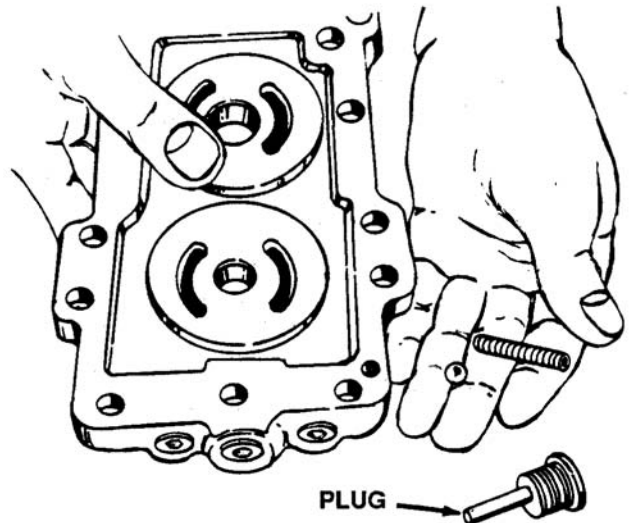

Figure 6-32. Ball and Spring Removal
- b. Remove spring and check valve (ball) from bore in center section. In removing check valve (ball), care should be taken that it does not fall into the closed loop passage. See Figure 6-32.